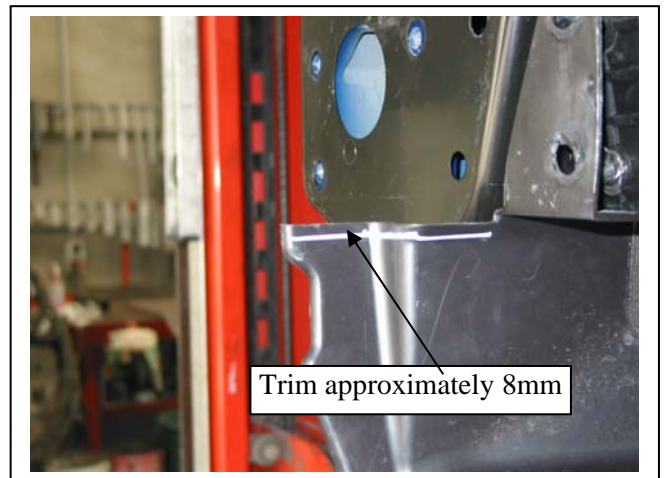

Figure 4 – Driver's side shown
12. Trim plastic air dam using sharp knife, die grinder or similar, to allow fitment of steel mounting brackets. **See figure 4.**